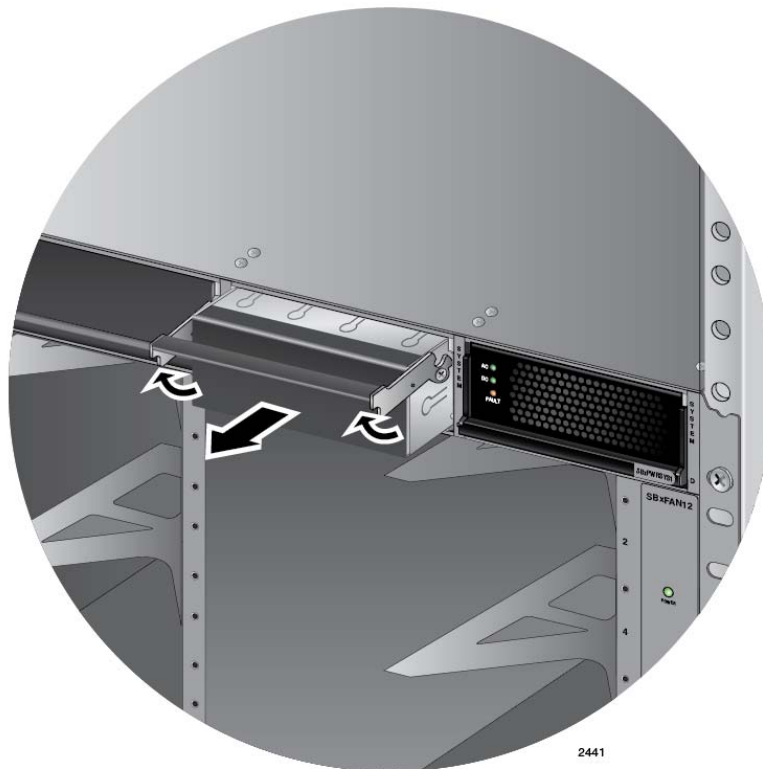

Figure 40. Removing the Blank Slot Cover from Power Supply Slot C
2. If the chassis already has a power supply in slot D, remove the blank power supply panel from slot C by lifting the blank panel handle and sliding it out of the slot, as shown in Figure 40.